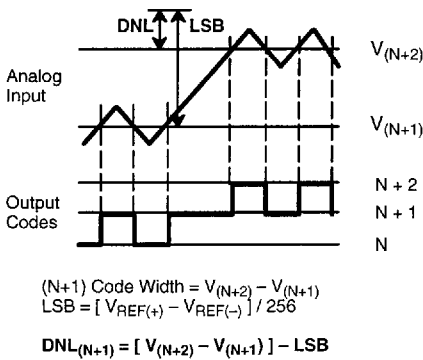

Figure 2. DNL Measurement On Production Tester
- 2 Tester measures code transitions by dithering the voltage of the analog input ( $V_{IN}$ ). The difference between the measured code width and the ideal value ( $V_{REF}/256$ ) is the DNL error (*Figure 2*). The INL error is the maximum distance (in LSB's) from the best fit line to any transition voltage (*Figure 3*).